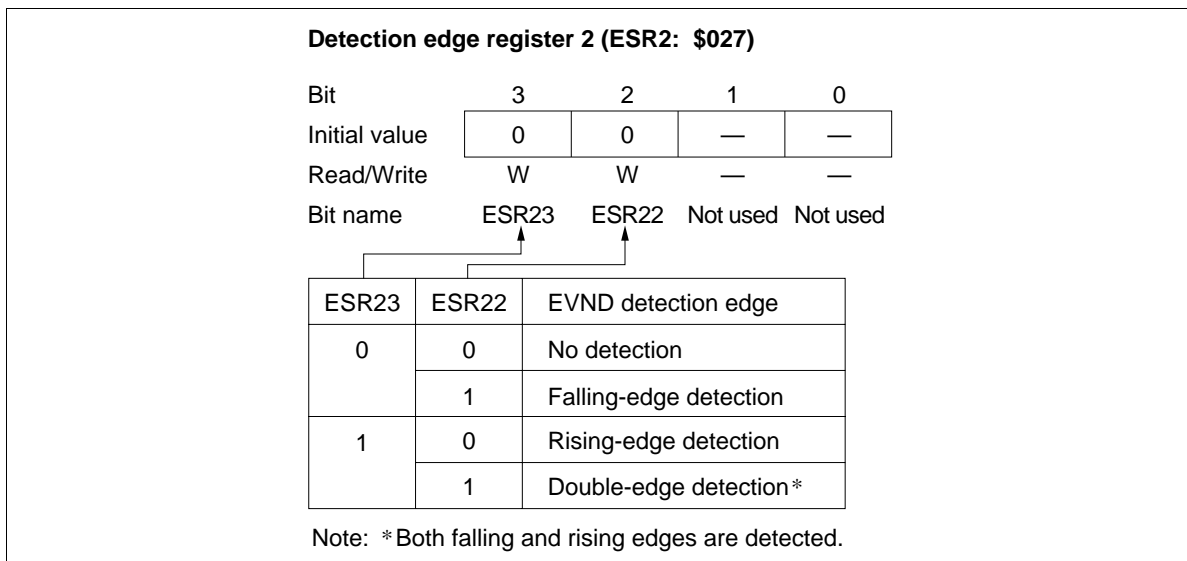

Figure 48 Detection Edge Select Register 2 (ESR2)
- Detection edge select register 2 (ESR2: \$027): Write-only register that selects the detection edge of signals input to pin EVND as shown in figure 48. It is reset to \$0 by MCU reset.